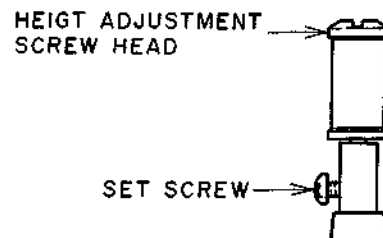

Fig. 5-12
- 1) Slightly loosen the set screw at lower part of the LOADING LEADERS (L), (R) so that LOADING LEADERS can be adjusted with reasonable tightness. (Refer to Fig. 5-12.)